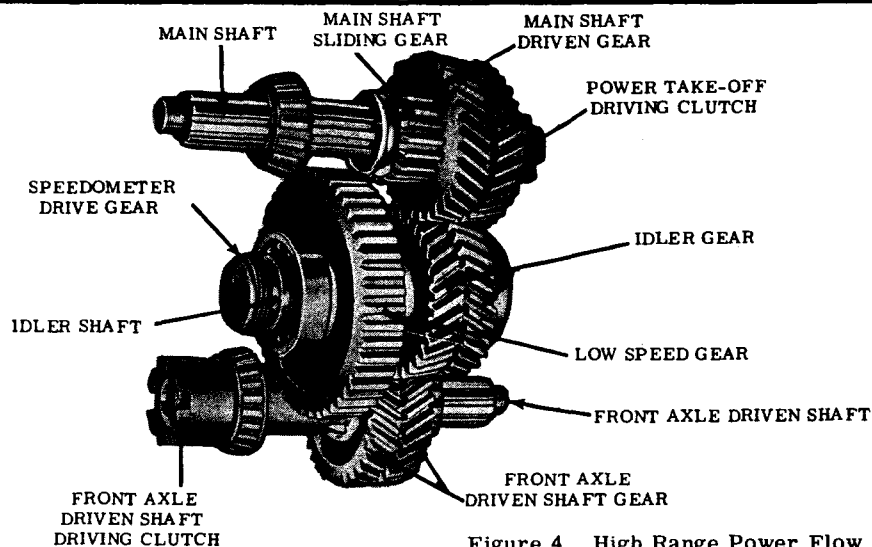

Figure 4. High Range Power Flow
- (1) High range power flow (fig. 4). Shifting into high range moves the shifter fork toward the rear axle, causing the main shaft sliding gear to mesh with the internal splines on the main shaft driven gear. Through the idler gear, power is transmitted to the front axle driven shaft gear which actuates the front axle drive shaft.